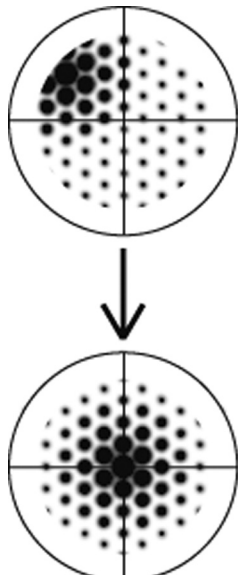

Fig. 6
- a) Turn the burner centering knob ⑦ (upper knob) so that the image on the U-CST is as bright as possible.
- b) Turn the burner centering knob ⑧ (lower knob) so that the image on the U-CST is brightest.
- c) Turn the collector lens focusing knob ⑨ so that only a part of light is noticeably brighter than other part (Fig. 6).
- ⊙ In practice, the bright part is not always located on the top left as shown in Fig. 6.
- d) Turn the centering knobs ⑦⑧ so that the part on the center of the cross lines on the U-CST is the brightest.